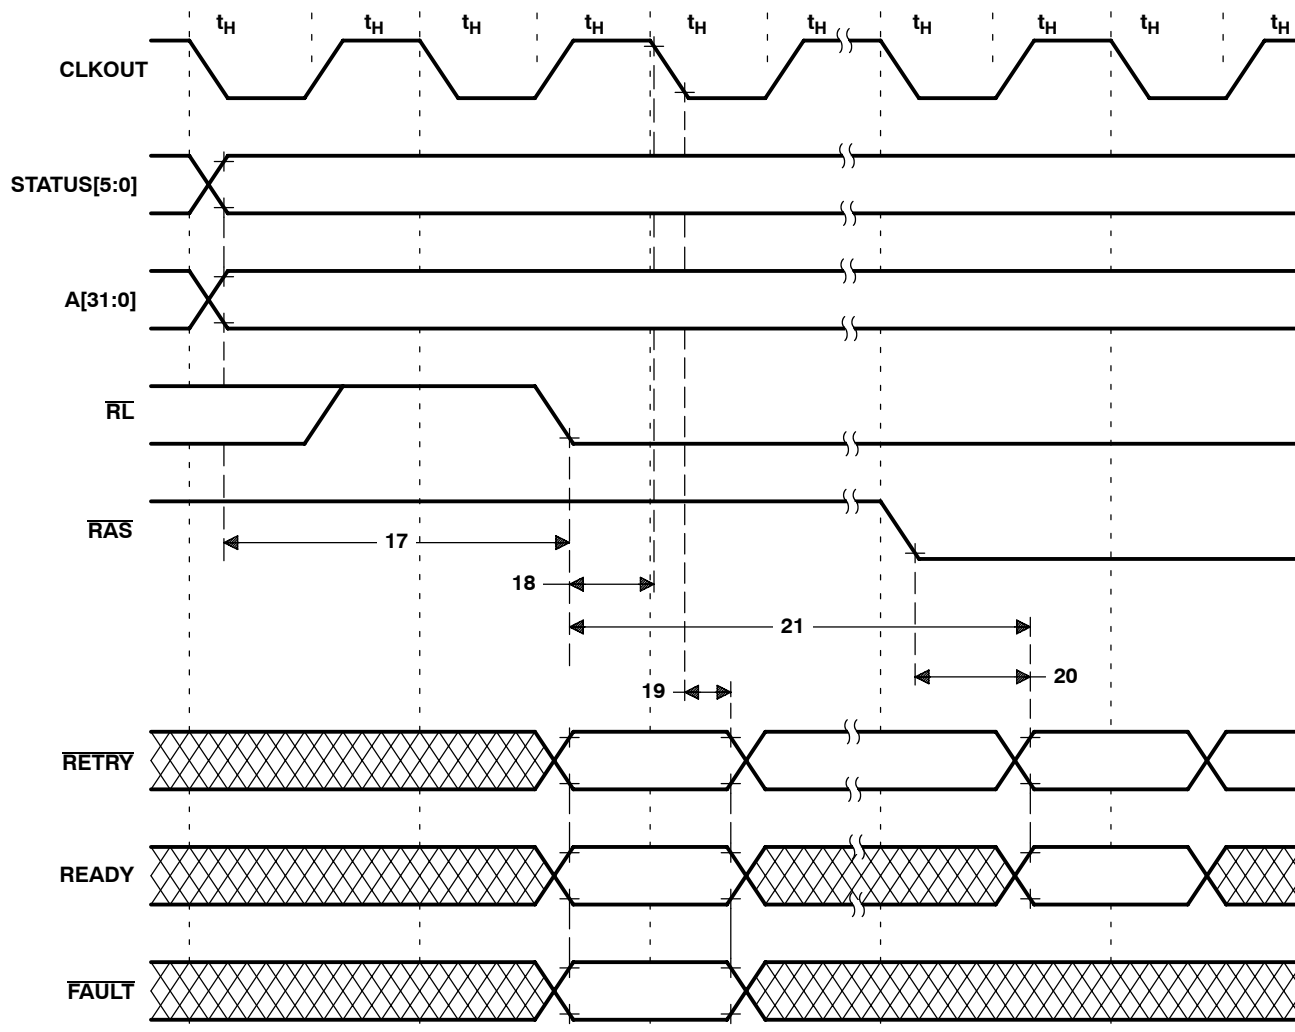
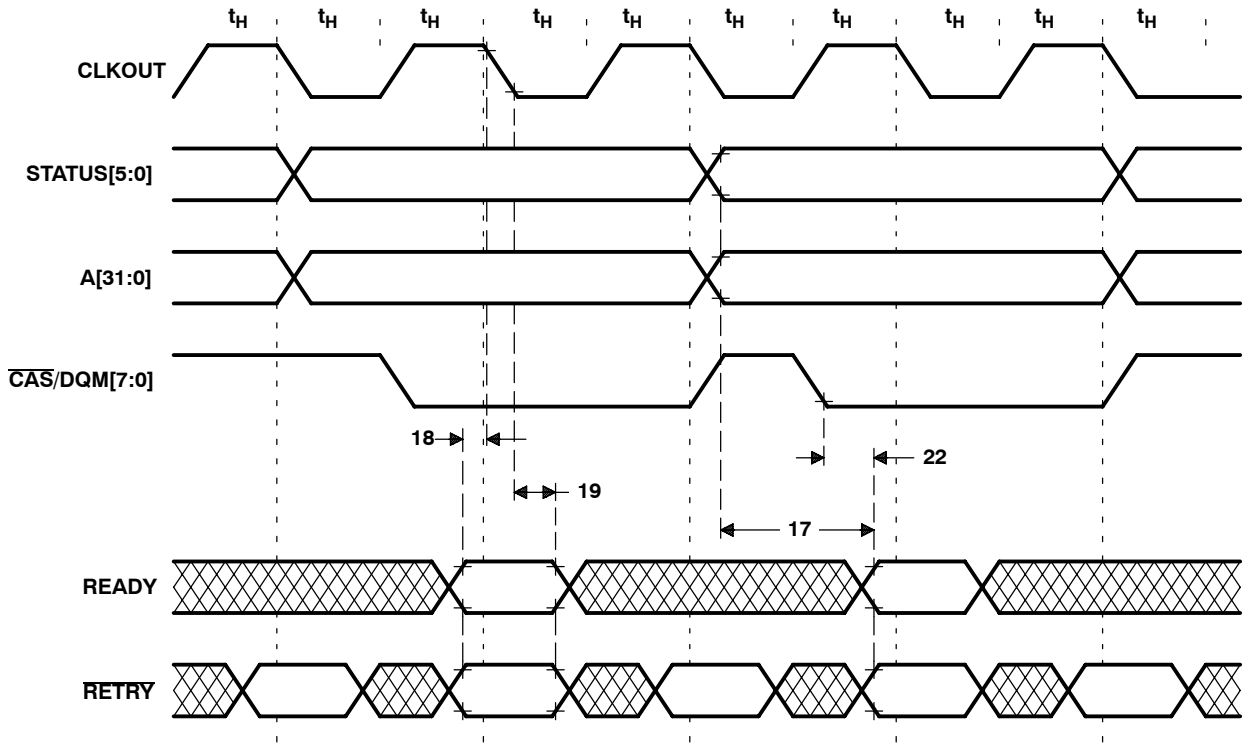

Figure 112. Local Bus Timing: Row-Time Cycle Completion Inputs
Figure 113. Local Bus Timing: Column-Time Cycle Completion Inputs
**local bus timing: cycle completion inputs (see Figure 112 and Figure 113)**